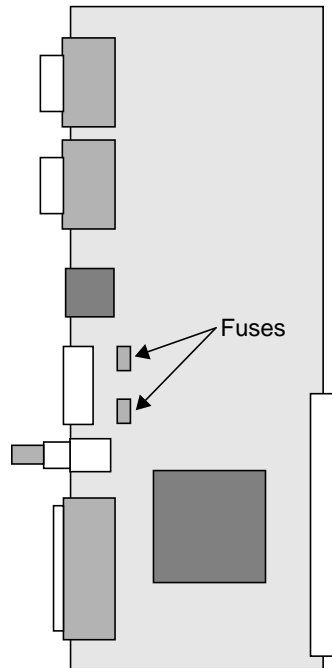

Figure 4-3: IOTB Fuse Locations
2. Check the IOTB board fuse (see Figure 4-3).